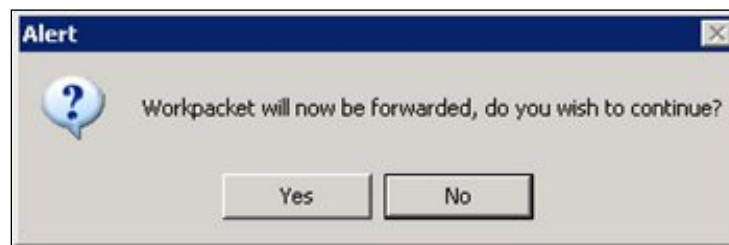

Figure 10-25: Forward Work Packet Dialog Box
10. If you clicked the SUBMIT TO ES button, the Forward Work Packet dialog box is displayed (Figure 10-25).